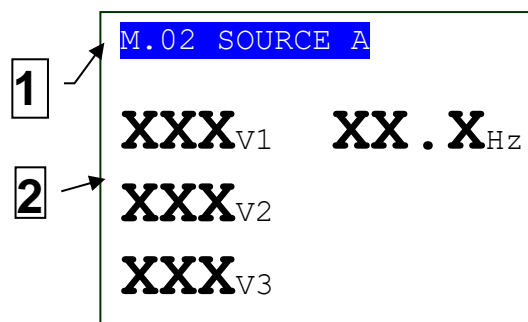

Fig. 3 – Display areas
11.4.4 Display area layout (ref. to fig. 3)